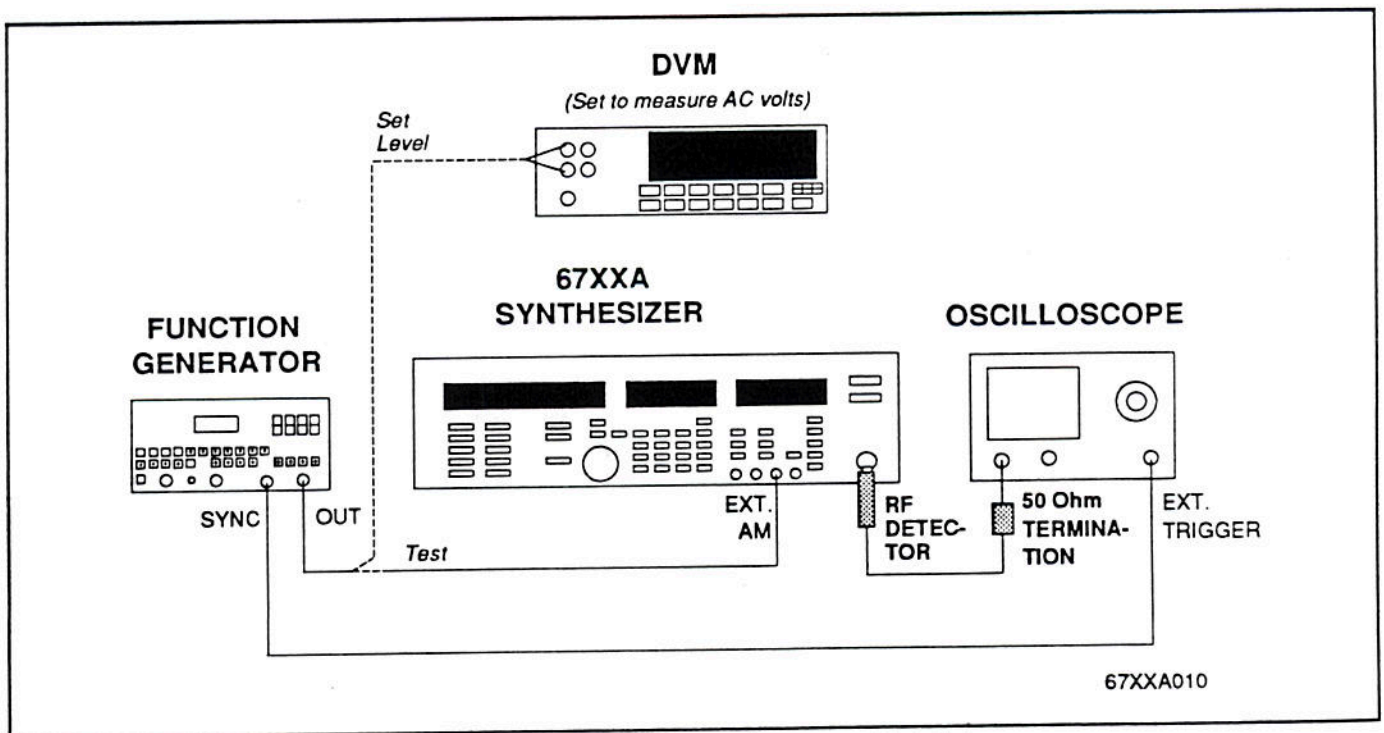

Figure 3-4. ALC Bandwidth Adjustments Test Setup
a. Test Setup. Connect the equipment as shown in Figure 3-4.